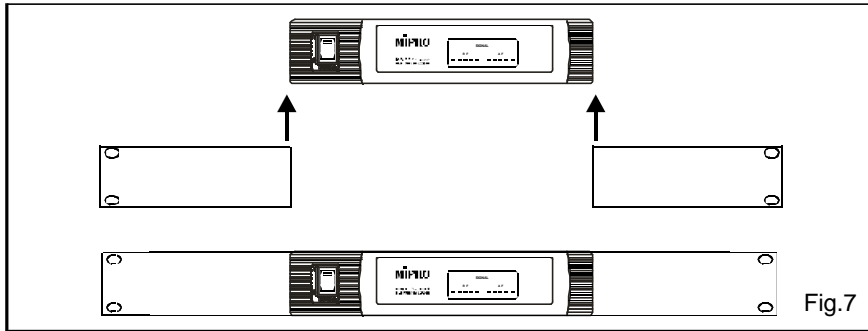

Fig.7
- (a) Push the rack mount ear optional accessory (FB-11) upwards until it is firmly attached to the receiver. (fig. 7)